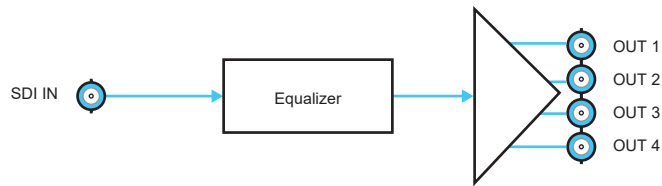

Figure 2 Simplified Diagram — 1x4 Configuration (8320AR-301)
**Figure 2** describes the workflow of the SEA-8803 with the 8320AR-301 Split Rear module. This configuration has the SEA-8803 operating as a single equalizing 1x4 with BNC connections.